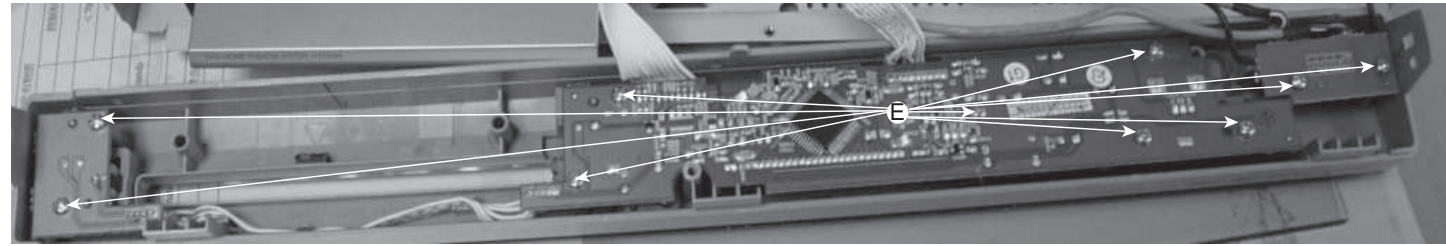

Figure 6
- 1) Loosen 10 screws "E" on the top of control board as shown in figure 6